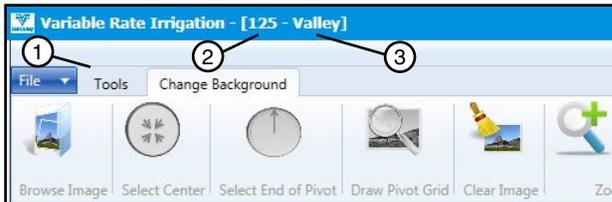

Figure 15-1 1. Tools Tab 2. RTU ID 3. Prescription Name
1. Click the Tools tab on the menu bar. See Figure 15-1.